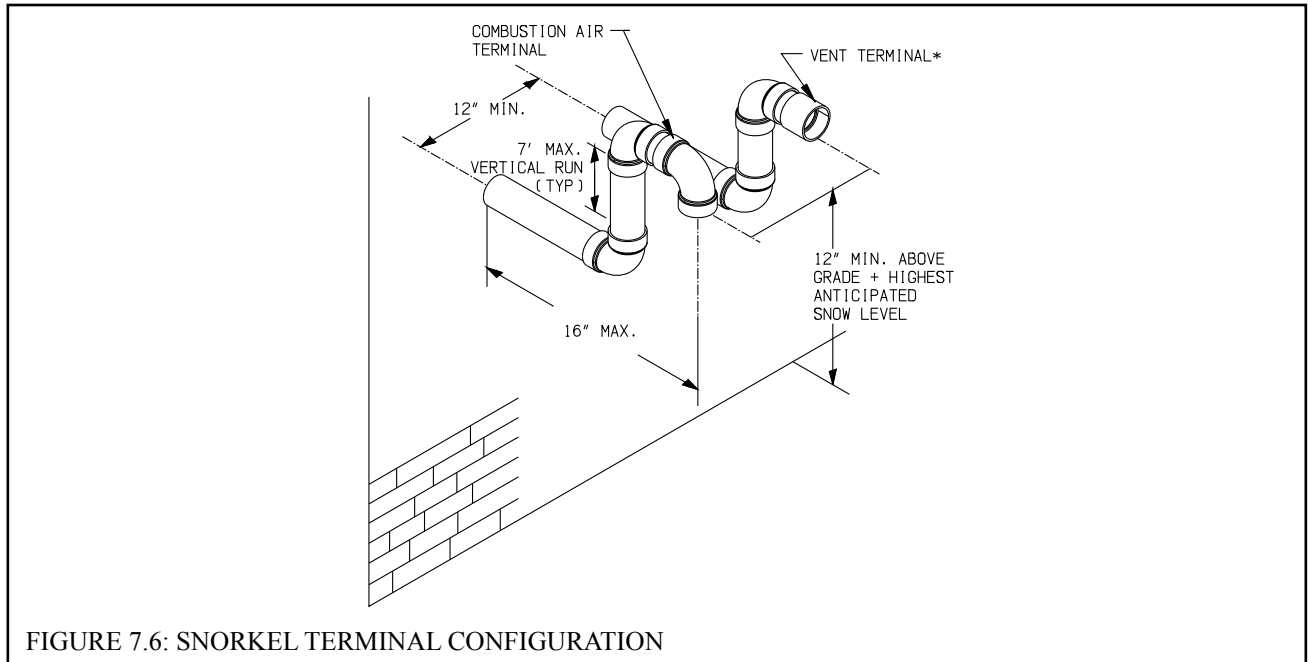

FIGURE 7.6: SNORKEL TERMINAL CONFIGURATION
If necessary to achieve required clearance above grade, CPVC or CPVC/PVC vent systems may be terminated using fittings on snorkels as shown in Figure 7.6. When this is done, the equivalent length of all pipe on the exterior of the building, except for the terminal fittings themselves, must be counted when calculating the equivalent length. The maximum vertical run of the snorkel is 7 feet. Brace both the vent and inlet piping if required.
- 3) PVC Terminal coupling and inlet elbow may be offset on snorkels as shown in Figure 7.6.